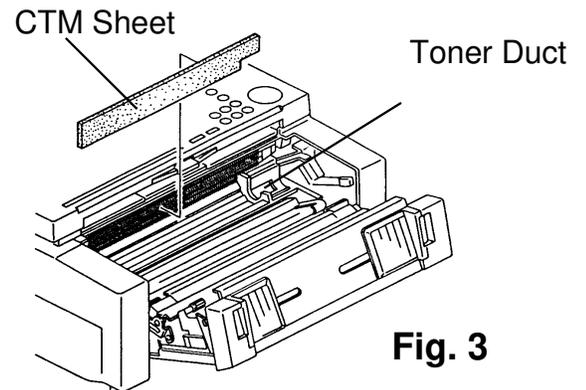

Fig. 3
- (1) Open the front cover, then cover the OPC belt with a piece of paper (do not touch the belt surface by hand).
- (2) Attach the CTM sheet. (Fig. 3)